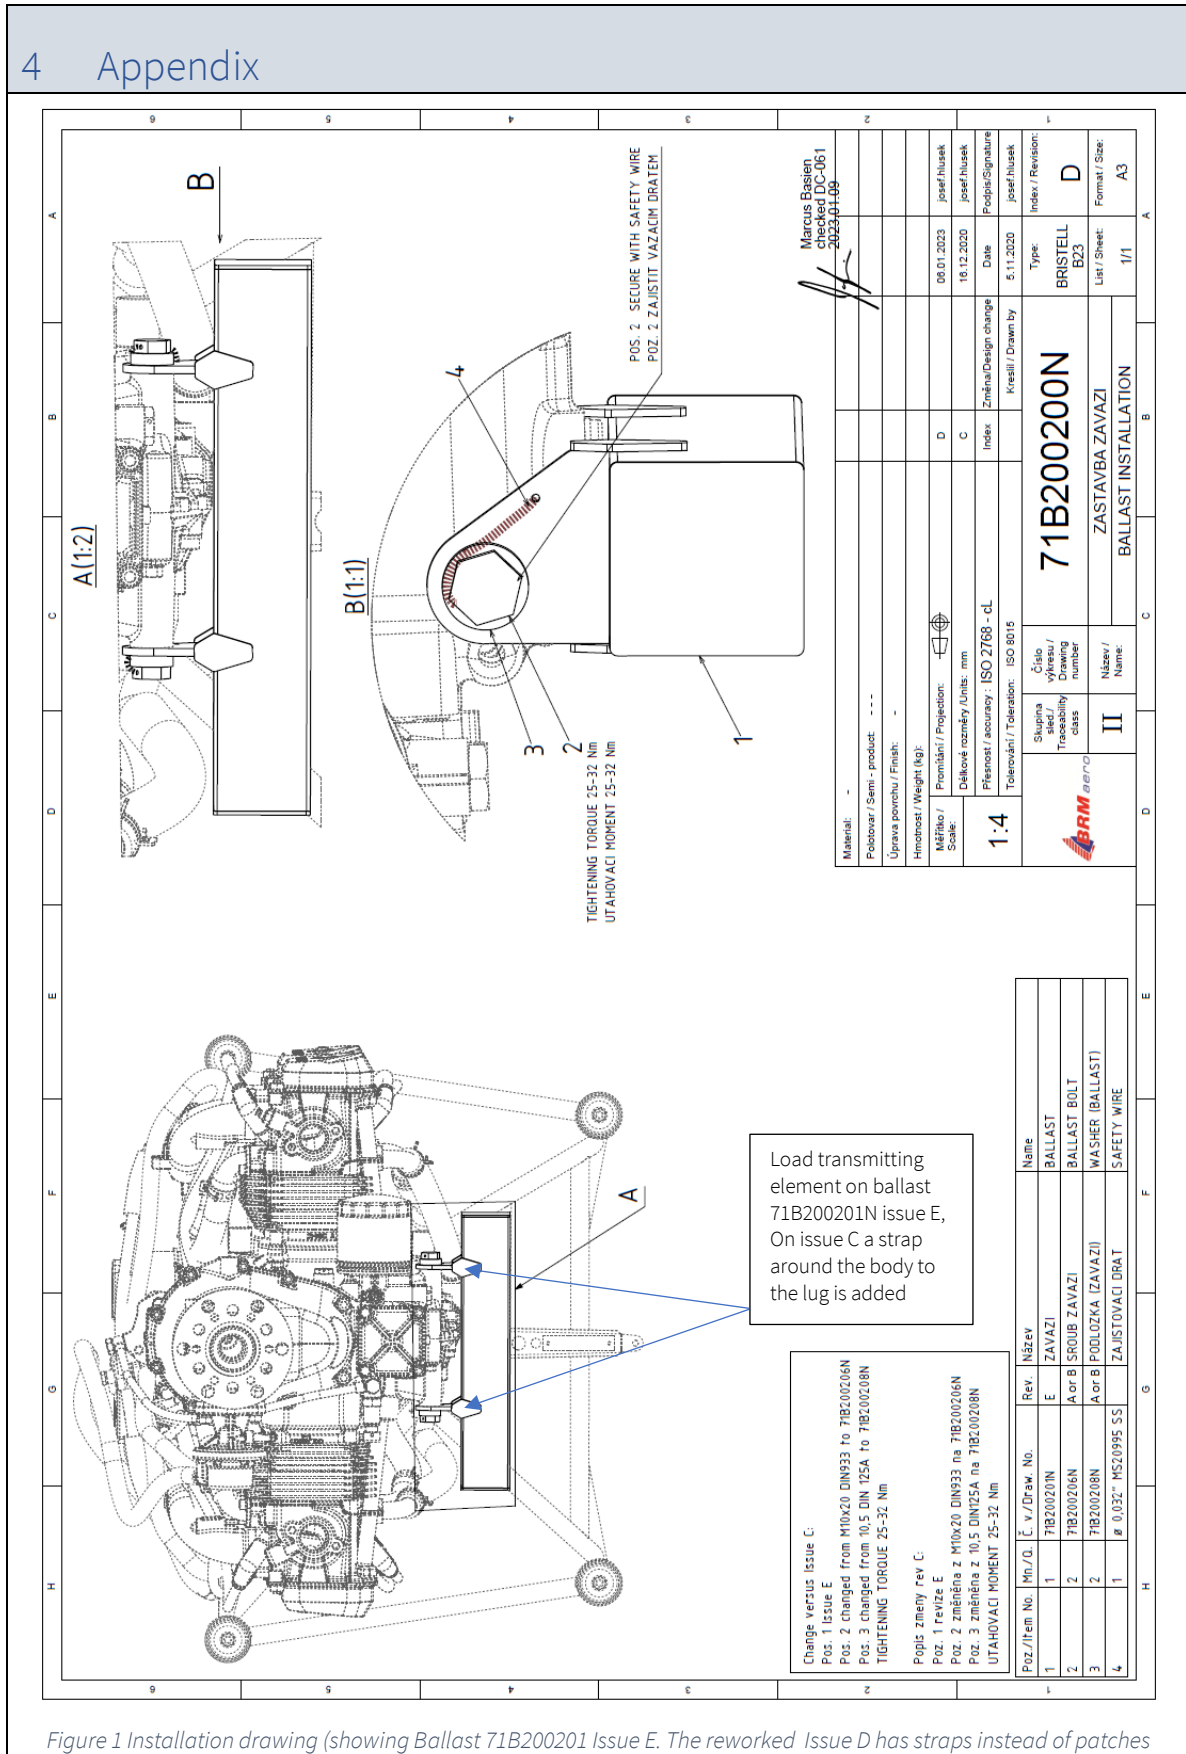

Figure 1 Installation drawing (showing Ballast 71B200201 Issue E. The reworked Issue D has straps instead of patches
- *Acceptable ballast issue D (reworked) or E (factory new) can be identified by presence of load transmitting elements between lug eye and body (ref. Figure 1), Issue D (reworked) has straps all around the ballast body, Issue E (factory new) has lug patches.*